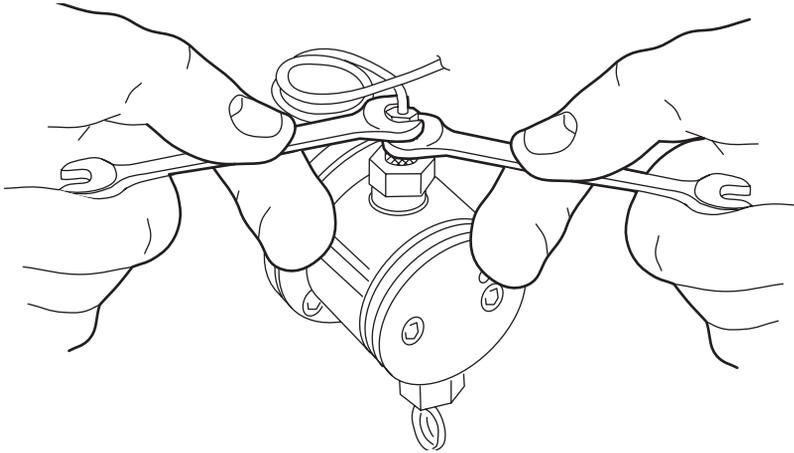

Figure 2-1 Loosening Fittings (1525 Analytical and 1525EF Models)
- If you have the 1525 analytical or 1525EF model, use a 5/16-inch open end wrench to hold the knurled portion of the check valve housings in place while loosening the inlet and outlet tubing assemblies with another 5/16-inch open-end wrench (Figure 2-1).